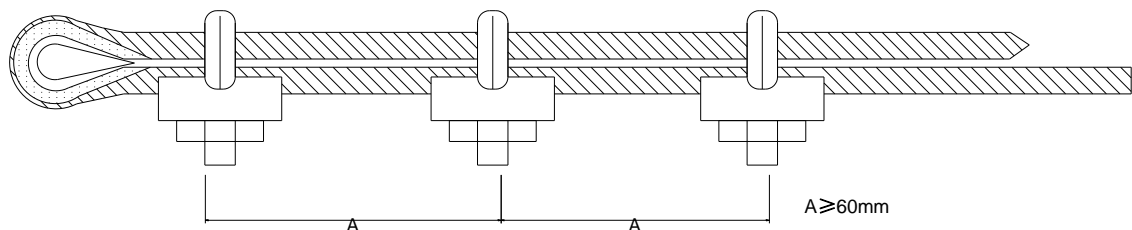

Figure 11
5.2.7 Fix the coupling sleeve on the tommy bar of the rear base. Lead one end of the reinforcing steel rope into the coupling sleeve of front beam and tighten the rope clamp (**see Figure 11**). Lead the reinforcing steel rope to the rope sheave on upper column and the other end through the hole of the close side of the turnbuckle, tighten the rope clamp. Adjust the screw bar of the turnbuckle and tighten the reinforcing steel rope to raise one end of front beam about 3cm.